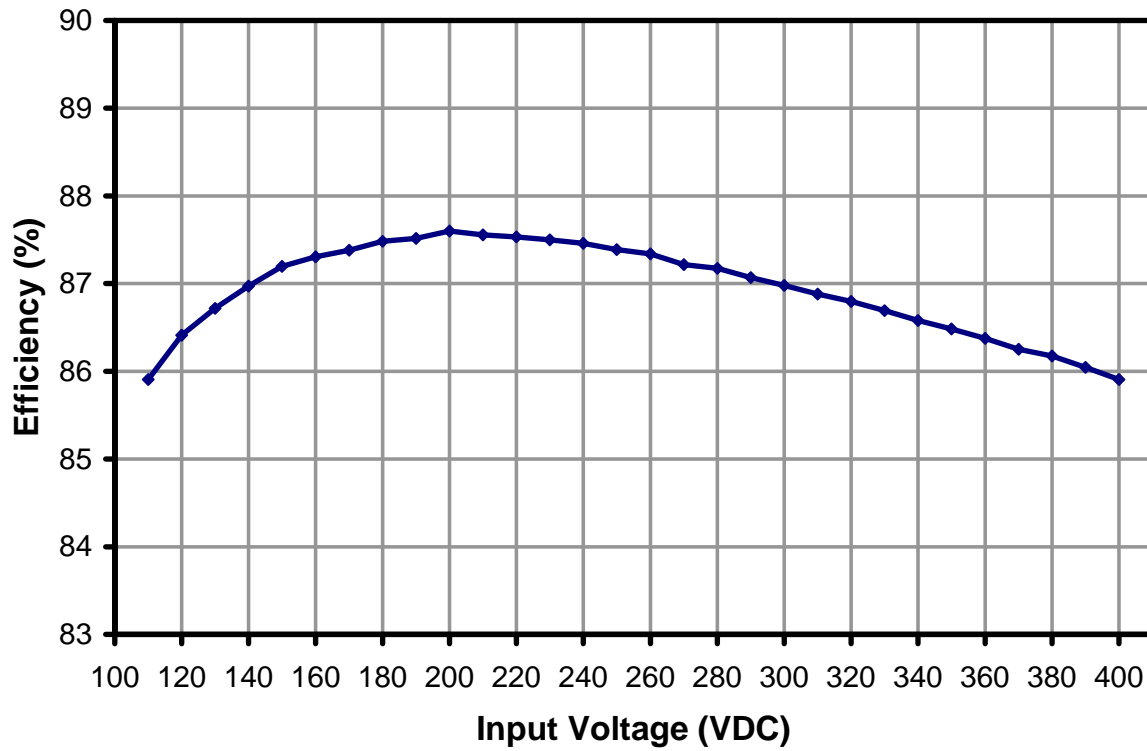

Figure 8 – Efficiency vs. Input Voltage, Room Temperature.
**Table 1** – Data for Efficiency in Figure 8.